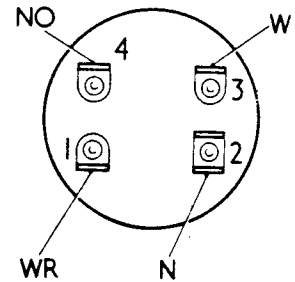

Fig L4.5
- (2) Refer to Fig L4.5. Reconnect the electrical leads to the ignition/starter switch.